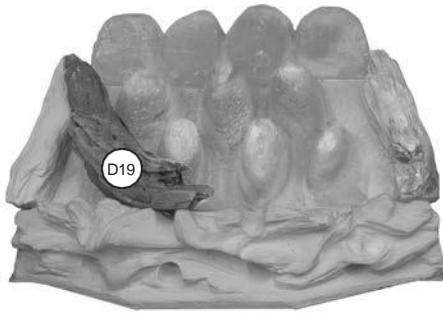

Fig. 53
5. Following Figs. 53 to 59, place the loose driftwood pieces onto the fuel bed. It is important that the driftwood 'nests' together and sits on top of the fuel bed peaks.